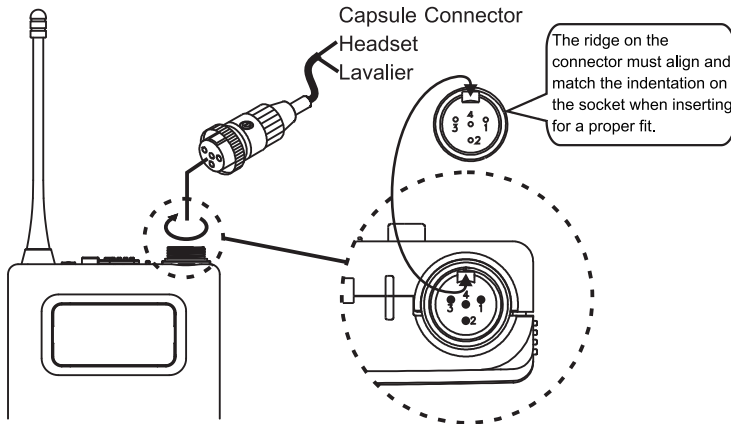

Fig.10
2. Fasten the connector accordingly and tighten it in the clockwise direction, see Fig. 10.